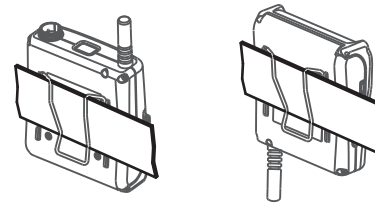

Fig. 3
- (A) Wearing the bodypack transmitter, Fig. 3.